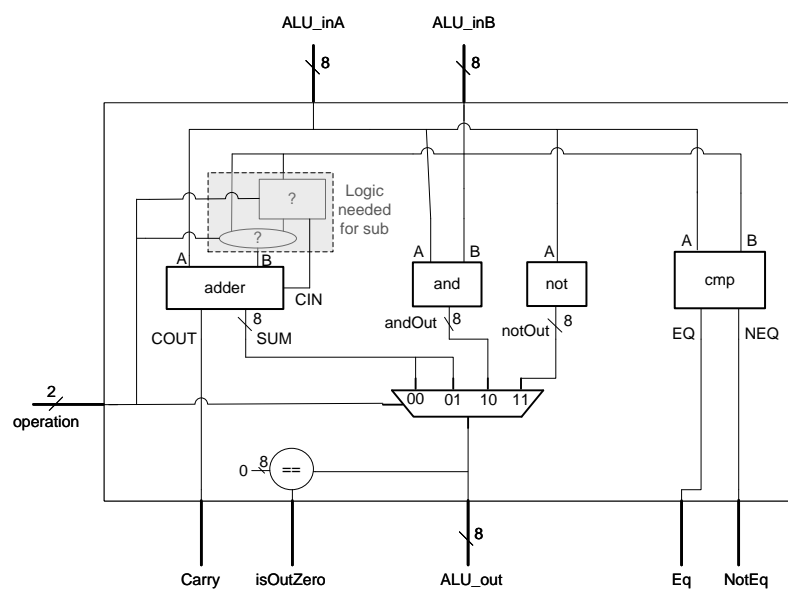

Figure 1: Block diagram of the ALU
The block diagram of the ALU is depicted in Figure 1. The interface was already presented in processor.pdf. There are four sub-components:
Implement the comparator *cmp* in a new file and name the entity "*cmp*". The **inputs** of *cmp* are the two ALU data input operands while the outputs are two 1-bit signals: EQ and NEQ, as depicted in Figure 1.
1. Write in **dataflow** VHDL the implementation for the rest of two operations *AND* and *NOT* inside the file `alu_wRCA.vhdl`. The *AND* is performed between *ALU_inA* and *ALU_inB*, while *NOT* has only one input (*ALU_inA*), according to Figure 1.
2. The current implementation of the adder supports *addition* only. Extra logic is needed to support *subtraction*, as also depicted in Figure 1 in the grey box. Derive the functionality of this box and write **dataflow** and/or **structural** VHDL code in `alu_wRCA.vhdl`. Don't modify the design of your RCA. Use only one instance of the RCA as component to support both addition and subtraction. Hint: Based on 2's complement representation, subtraction is performed as an addition but we have to modify some of the inputs. What modification is needed? How do we select the correct input set for the RCA, provided that we know whether we are going to perform addition or subtraction? The latter is revealed by the *Operation* input (see Table 4)?
4. Integrate all the different units that you have implemented so far into one ALU using **structural** VHDL (using components), inside file `alu_wRCA.vhdl`. Use the block diagram of the ALU in Figure 1 to observe how the implemented components are connected.